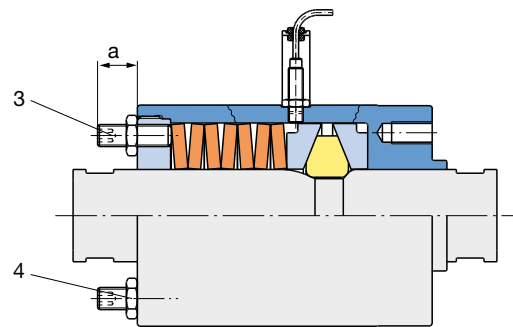

Fig. 4
Adjusting Sizes 5 – 8 (Fig. 4):
There are 4 or 6 set screws (3) in the adjusting nut (2), which can be set to Dimension “a” (see Fig. 4). Countering the set screws (3) with hexagon nuts (4) prevents inadvertent changes to the adjustment. The Adjustment Diagram shows the relationship between Dimension “a”, Fig. 4 and the release force. On request, we can deliver the EAS®-axial pre-set to the required release force.